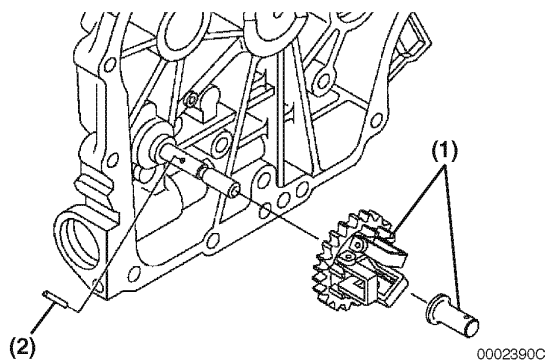

Figure 8-77
3. Install the drive pin (Figure 8-77, (2)). The pin must protrude evenly from either side of the shaft.
5. Install the oil pump / governor drive gear and spindle assembly (**Figure 8-77, (1)**) onto the oil pump shaft. Ensure the gear is fully seated and the drive pin engages the drive grooves in the gear.